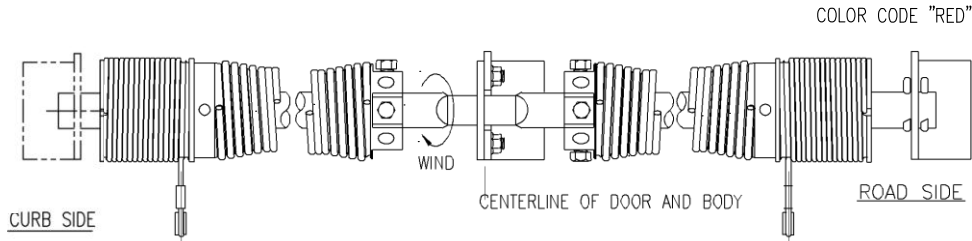

FIGURE 6
- a.) 3 mounting brackets are required - center, roadside* and curbside*. It is important that mounting surface is flush (in line) to all three locations. If necessary, install mounting plates of sufficient size to serve as a base for the balancer brackets. SEE FIGURE 6
- b.) Locate center bracket at centerline of header. Position it so pointed tab is at top, angled section at bottom. **SEE FIGURE 6**